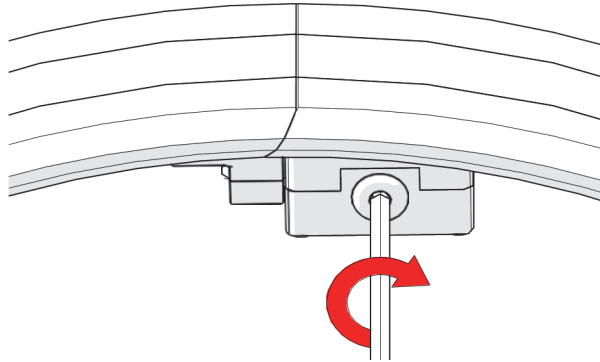

Figure 1-23 Tighten the latch
6. Fully tighten the latch (see Figure 1-23 on page 41).